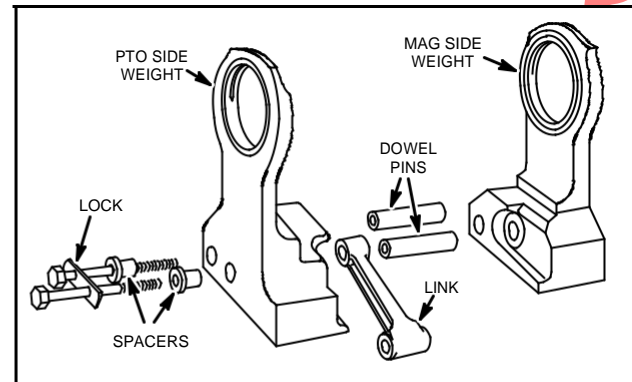

Fig. 190 - DISASSEMBLING COUNTERWEIGHT
8. Remove crankshaft from magneto side counterweight, Fig. 190.